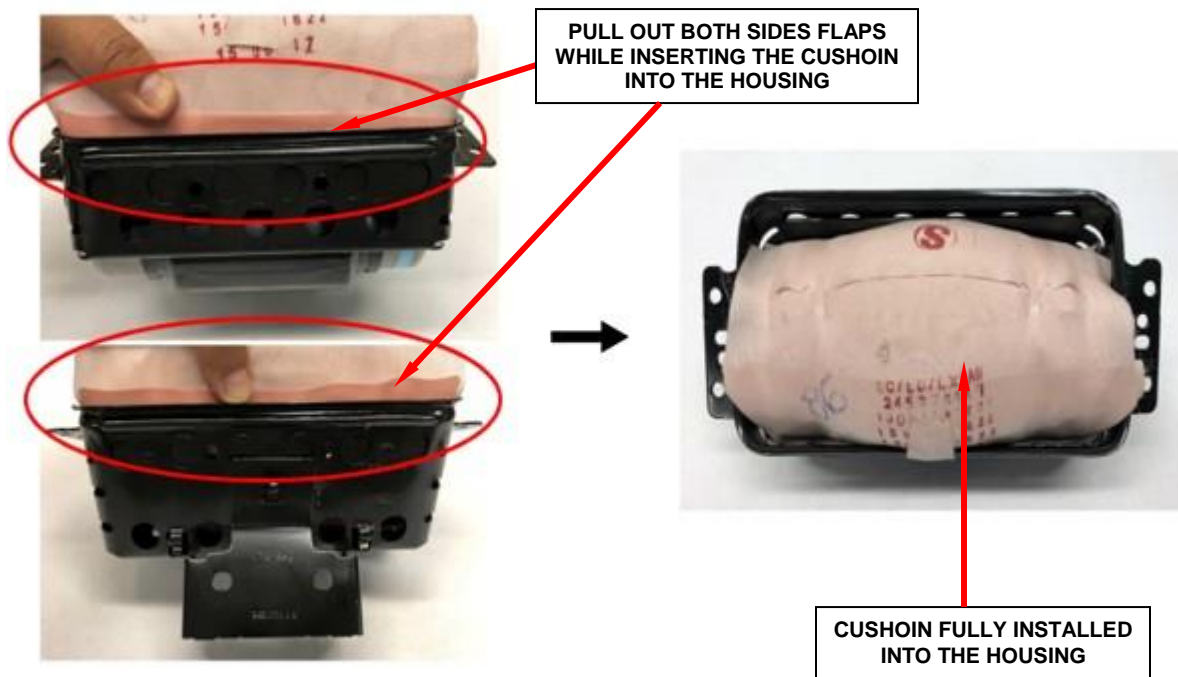

Figure 42 – Side Flaps Must Be Held Out
k. Insert the cushion, pulling out both side flaps (Figure 42).